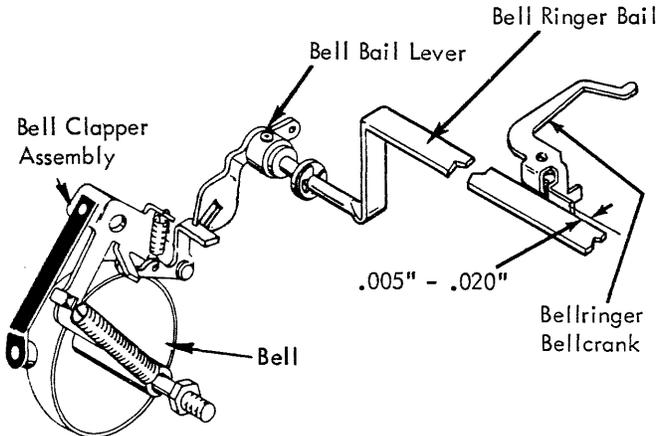

FIGURE 181. Bell Bail Lever (Late Style)
- b. Late - With the carrier positioned away from the right hand margin stop, adjust the bell bail lever located on the left end of the bellringer bail so that when the bottom portion of the lever is allowed to contact the underside of the bell clapper bellcrank lever a clearance of  $.005''$  to  $.020''$  will exist between the bellringer bail and the bellringer bellcrank (Fig. 181).